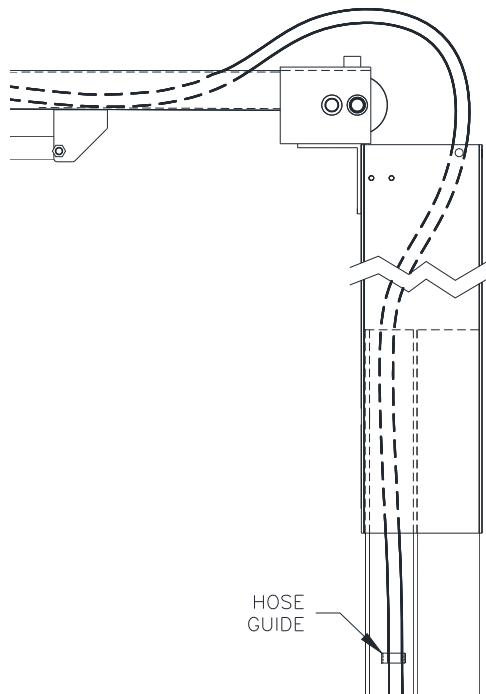

Fig 15 – Hose Routing
30) Route hoses through hose guides in Column. Run Idler hose up through Column Extension, over the top of the Overhead, and down through the opposite Column Extension as shown in **Fig. 15** below.